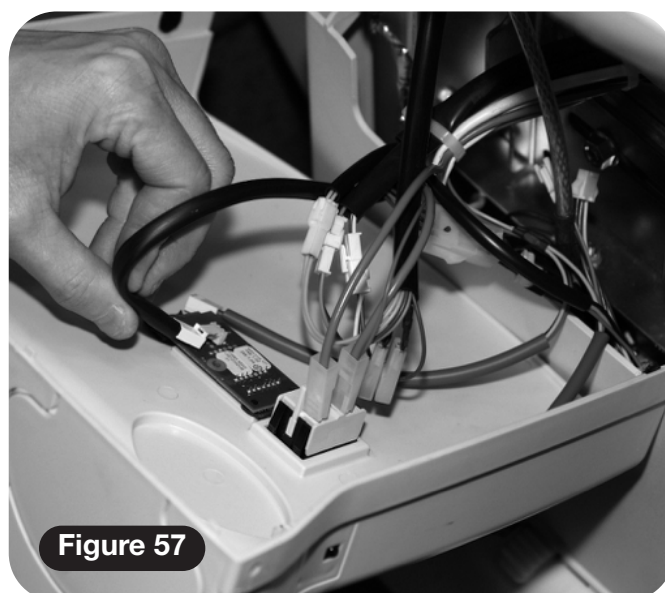

Figure 57
- b Connect the power switch (2 x red) (**Figure 57**).